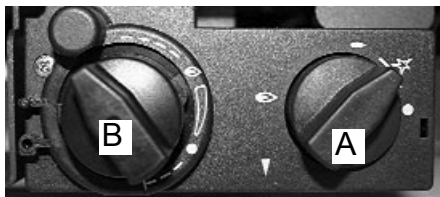

Fig. 20b
Step 1. To ignite the pilot. First locate the pilot, it can be viewed in the front right hand side of the coal / log bed. Open doors and look downward through the glass window 50mm from the right hand side. To ignite the pilot turn control knob “A” anti-clockwise towards the spark position (See Fig. 20b) until it stops, press down and hold in for 5 seconds. (only pilot gas flows) .